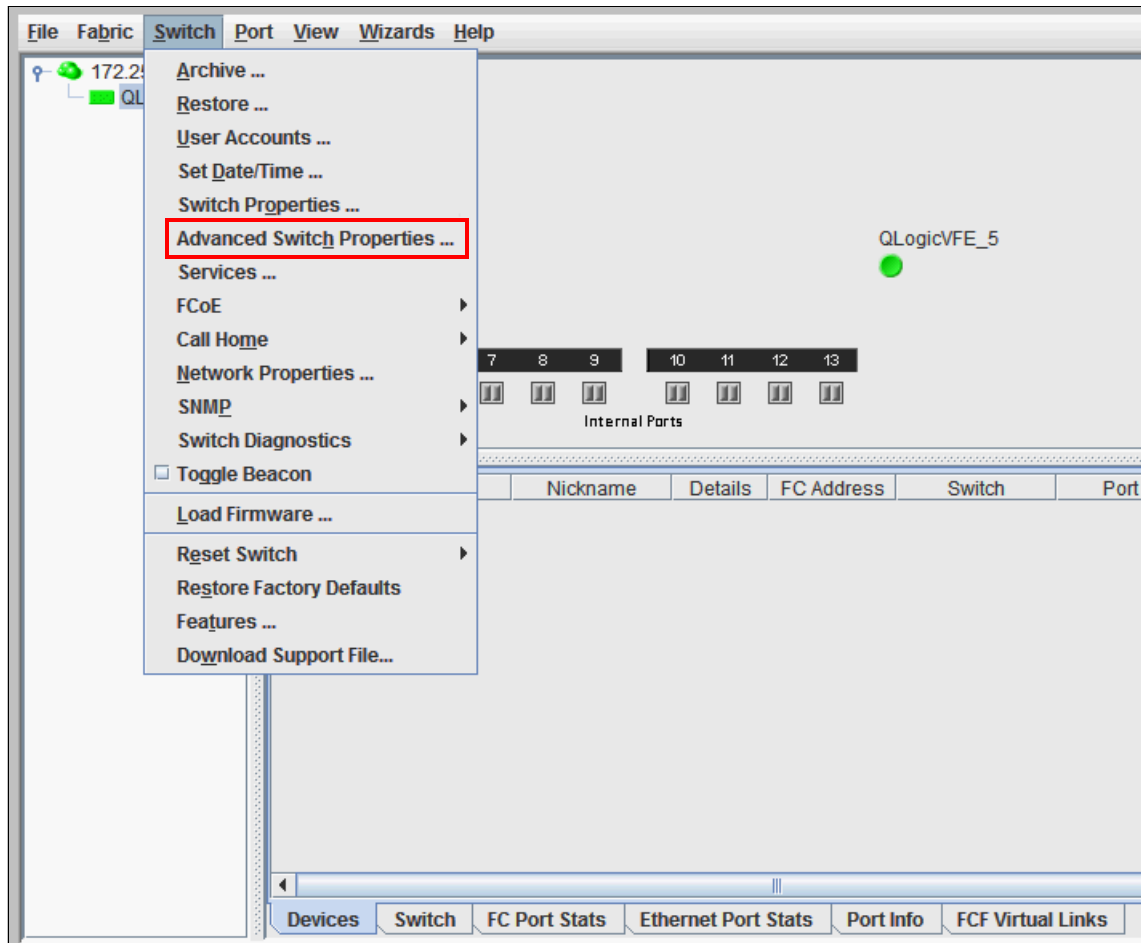

Figure 8-30 Accessing the Transparent mode option
3. Select **Switch** → **Advanced Switch Properties** to access the QLogic Transparent mode (Figure 8-30).